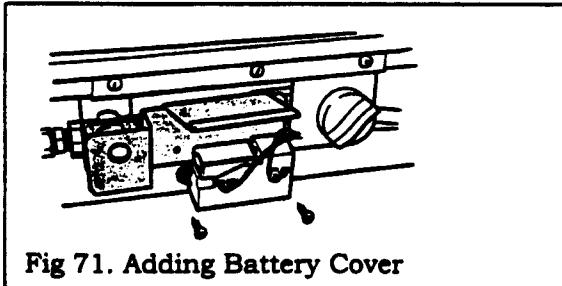

Fig 71. Adding Battery Cover
19.2.4 Place the battery cover supplied against the bracket and replace the spark generator unit and screws (Fig 71.)